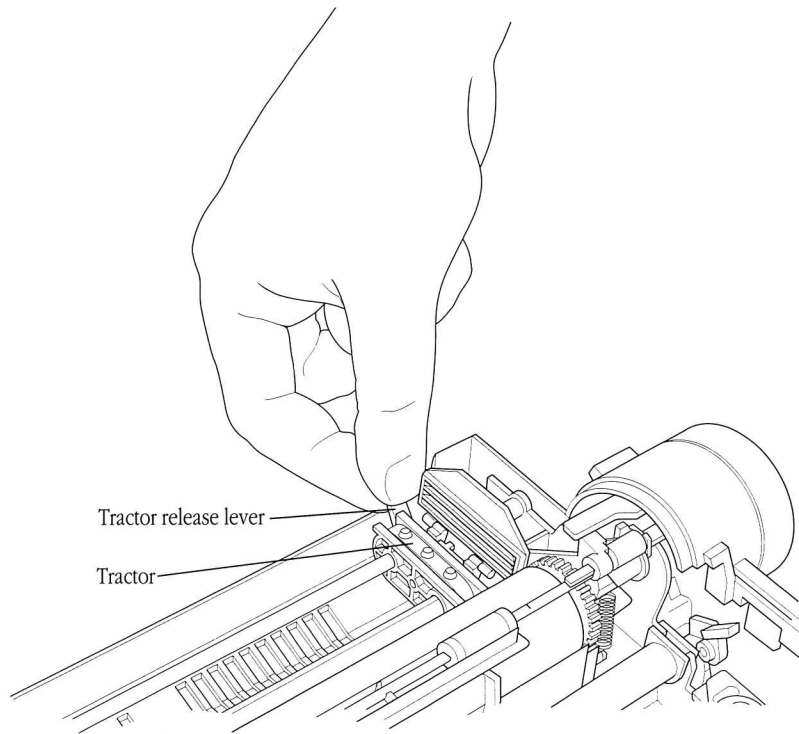

Figure 2-12 Releasing a tractor
4. Flip the tractor release levers into the up position by pushing them toward the front of the printer. (See Figure 2-12.)